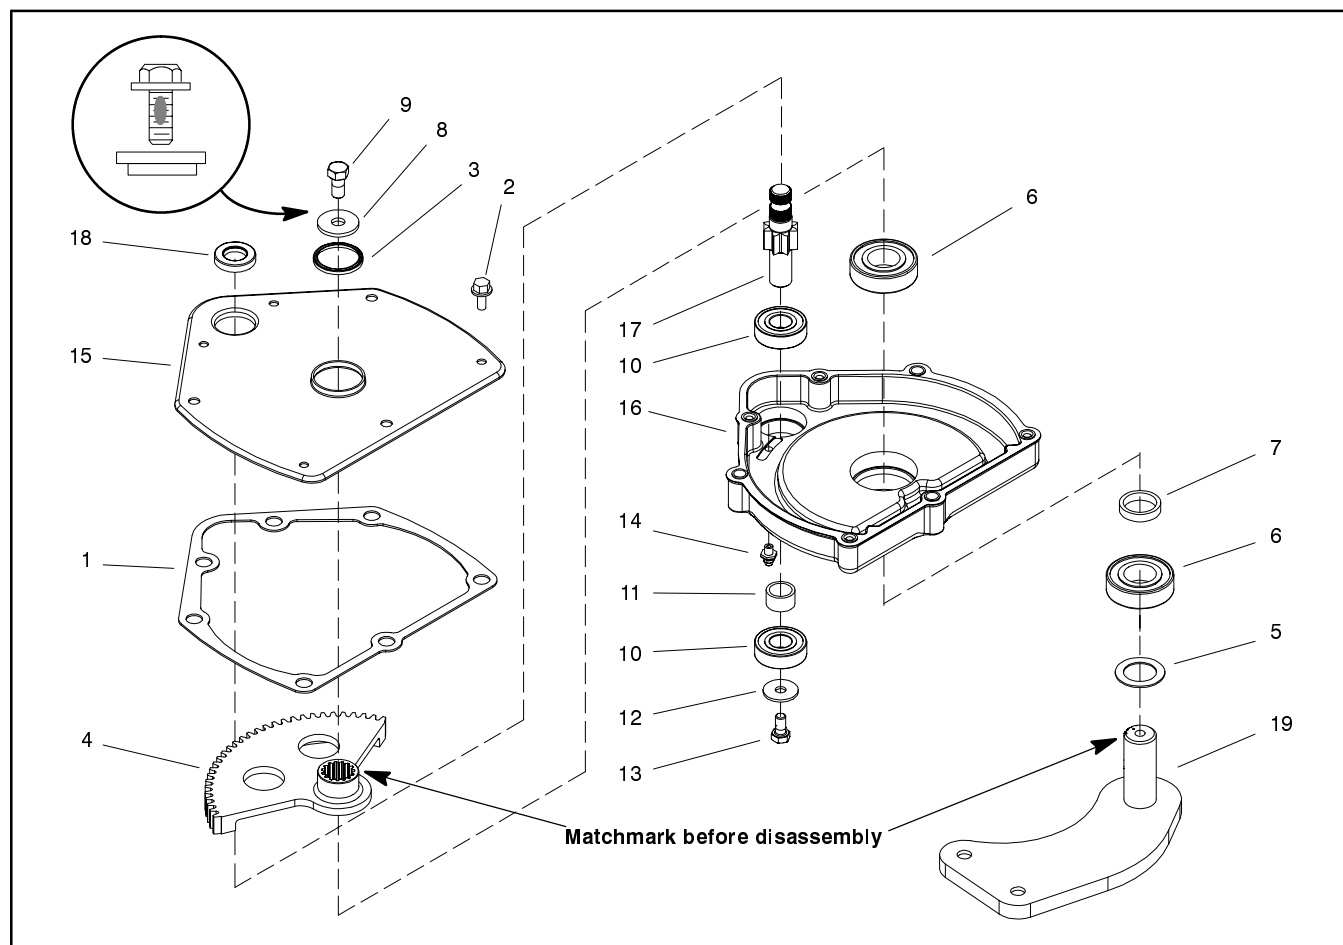

Figure 10
8. Secure flange head screw with patch lock and step washer to the Pitman arm. Make sure to position step washer as in Figure 10.